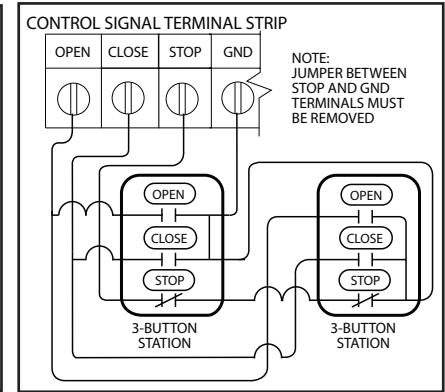

Figure 5
- 3) For a multiple 3 - button installations, make connections as shown in **Fig. 5**.